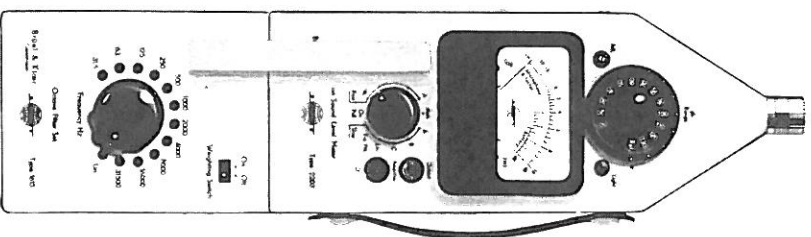

Fig. 3.1. The 1613 mounted on the Precision Sound Level Meter Type 2203
4. Plug in the Connecting Bar JP 0400 supplied with the 1613 to connect the Sound Level Meter and the Filter Set. The portable analyzer thus obtained is shown in Fig. 3.1.